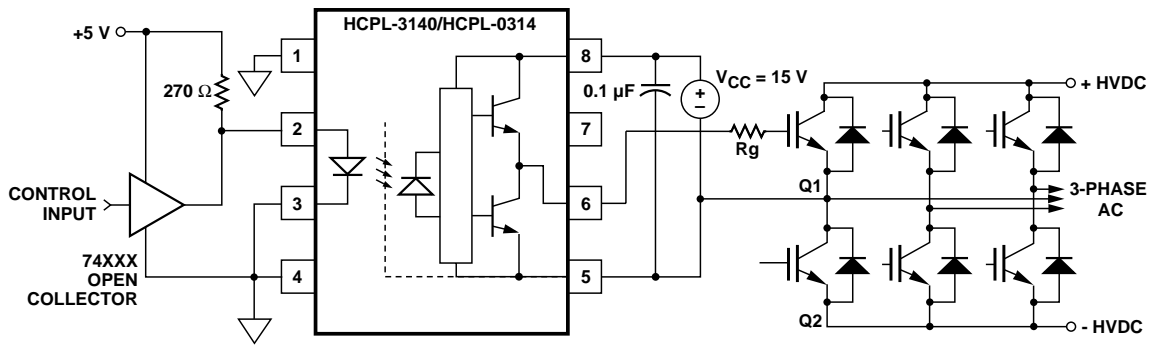
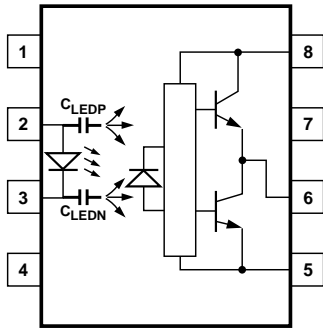
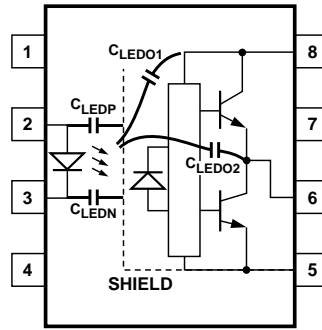

Figure 19. Recommended LED drive and application circuit for HCPL-3140/HCPL-0314.
Figure 21. Optocoupler input to output capacitance model for unshielded optocouplers.
Figure 22. Optocoupler input to output capacitance model for shielded optocouplers.
HCPL-3140/HCPL-0314 on a small PC board directly above the IGBT) can eliminate the need for negative IGBT gate drive in many applications as shown in Figure 19. Care should be taken with such a PC board design to avoid routing the IGBT collector or emitter traces close to the HCPL-3140/HCPL-0314 input as this can result in unwanted
Step 1: Calculate Rg minimum from the IOL peak specification. The IGBT and Rg in Figure 19 can be analyzed as a simple RC circuit with a voltage supplied by the HCPL-3140/HCPL-0314.
where  $K_{ICC} \cdot Q_g \cdot f$  is the increase in ICC due to switching and KICC is a constant of 0.001 mA/(nC\*kHz). For the circuit in Figure 19 with IF (worst case) = 10 mA, Rg = 32 Ω, Max Duty Cycle = 80%, Qg = 100 nC, f = 20 kHz and TAMAX = 85°C:
Without a detector shield, the dominant cause of optocoupler CMR failure is capacitive coupling from the input side of the optocoupler, through the package, to the detector IC as shown in Figure 21. The HCPL-3140/HCPL-0314 improves CMR performance by using a detector IC with an optically transparent Faraday shield, which diverts the capacitively coupled current away from the sensitive IC circuitry. However, this shield does not eliminate the capacitive coupling between the LED and opto-coupler pins 5-8 as shown in Figure 22. This capacitive coupling causes perturbations in the LED current during common mode transients and becomes the major source of CMR failures for a shielded optocoupler. The main design objective of a high CMR LED drive circuit becomes keeping the LED in the proper state (on or off) during common mode transients. For example, the recommended application circuit (Figure 19), can achieve 10 kV/μs CMR while minimizing component complexity.
supplied by the LED, and it is not recommended for applications requiring ultra high CMR1 performance. The alternative drive circuit which like the recommended application circuit (Figure 19), does achieve ultra high CMR performance by shunting the LED in the off state.